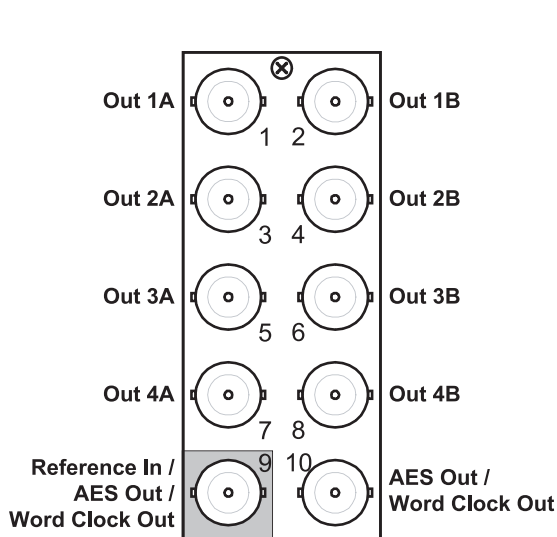

Figure 2.2 Cable Connections for the R1-8260 and R2-8260 Rear Modules
- 8310AR-030** Rear Module (R1-8260) — Each card occupies one slot and provides eight video outputs. Depending on your configuration, there can be a reference input or an AES output on BNC 9, and an AES output or a Word Clock output on BNC 10. (**Figure 2.2**)
- 8320AR-030** Full Rear Module (R2-8260) — Each card occupies two slots and provides eight video outputs. Depending on your configuration, there can be a reference input or an AES output on BNC 9, and an AES output or a Word Clock output on BNC 10. (**Figure 2.2**)